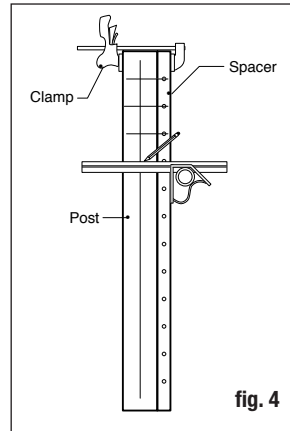

fig. 4
**Step 6:** Find the center of your post sleeve and clamp the cable spacer in place. This will be your template for predrilling holes for cables. Predrill holes using a 3/16" drill bit (fig. 4). *Note: When running a cable through the post, drilling halfway through one side of the post and then remeasuring and drilling through the other side will result in a much easier, cleaner finish. You can also make a template by using a 2x4 and aligning it to your post sleeve.*